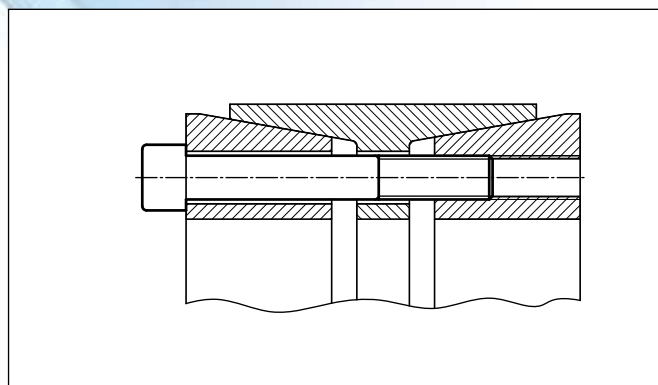

Figure 1: Locking Assembly RfN 7015. Part description.
Used Locking Assemblies have to be cleaned and slightly oiled prior to installation and re-assembled according to Fig. 1
When re-assembling, it is important to make sure that all threaded holes of the rear thrust ring (1) are in line with the holes in web of inner ring (3) and front thrust ring (4). Threaded removal holes in front thrust ring must be located opposite blank spaces in web of inner ring, and the threaded removal holes in web of inner ring must be located opposite blank spaces of rear thrust ring, see Fig. 1.